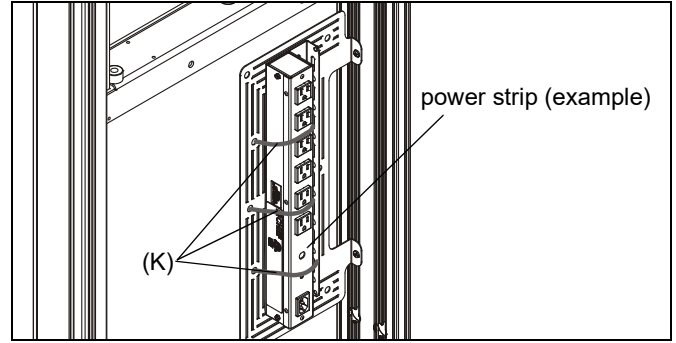

Figure 15
5. Install components to component bracket as desired using cable ties (K), cable clips (T) or screws. (See Figure 15)